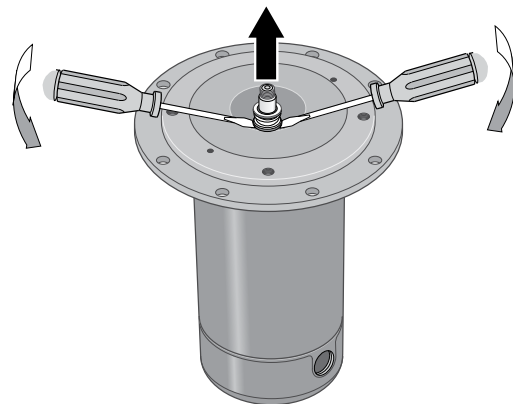

Figure 17 - Remove Seal Plate
3. Remove rotating half of seal by placing two screwdrivers under seal ring and **carefully** prying up (Figure 17).